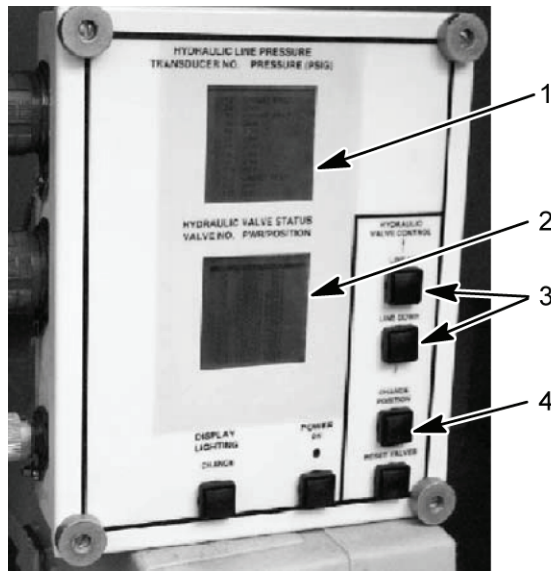
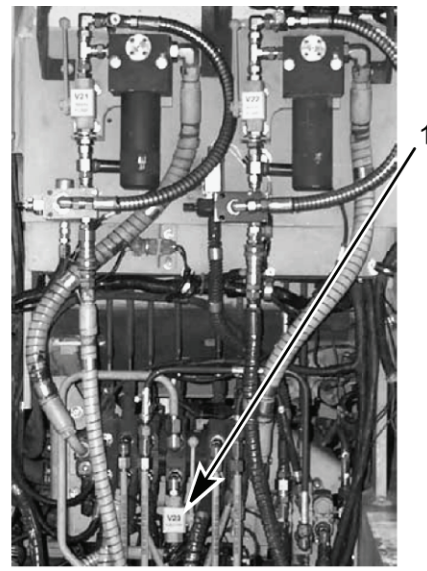

Figure 23. HDC Control Box
Figure 24. DCV Bank
- Disable ejector by manually closing the ejector inhibit ball valve V23 (Figure 24, item 1) on the DCV bank. Using LINE UP or LINE DOWN button (Figure 23, item 3), select V1 on the HDC display (Figure 23, item 2). Close V1 on the HDC display (Figure 23, item 2) by selecting the CHANGE POSITION button (Figure 23, item 4) on the HDC control box.
- Start engine. With the engine at idle speed and EJECTOR CONTROL lever in FORWARD position, loosen jam nut (Figure 25, item 1) on ejector control valve and turn adjusting screw (Figure 25, item 2) clockwise to increase pressure; counterclockwise to decrease pressure. Transducer T-2 hydraulic pressure on the HDC display (Figure 23, item 1) should indicate 1,950-2,050 psi (13,445-15,135 kPa).
- Manually open the ejector inhibit ball valve V23 (Figure 24, item 1) on the DCV bank. Using LINE UP or LINE DOWN button (Figure 23, item 3), select V1 on the HDC display (Figure 23, item 2). Close V1 on the HDC display (Figure 23, item 2) by selecting the CHANGE POSITION button (Figure 23, item 4) on the HDC control box.